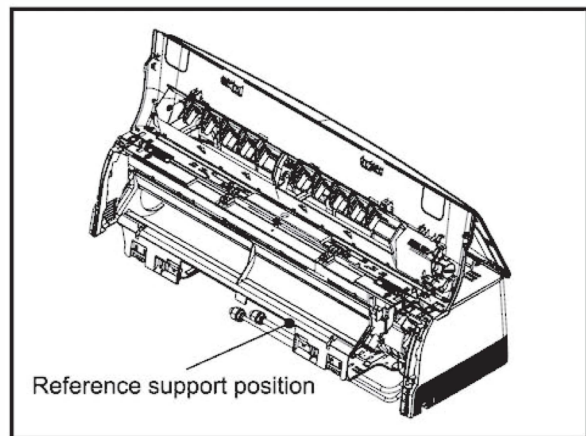
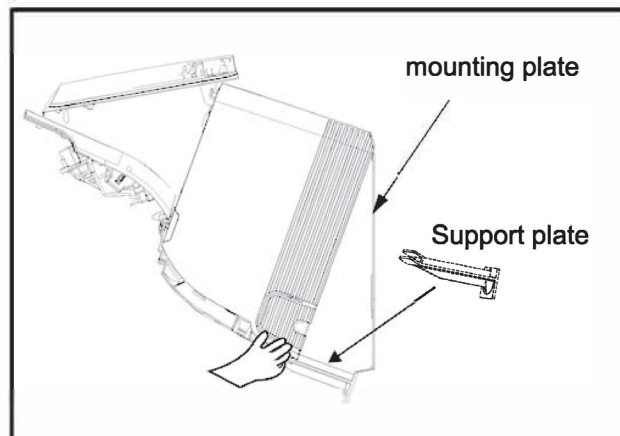

Fig. C.7.6
Fig. C.7.7
- 5) Use the support plate to move the unit step by step to reach the best location. (Fig. C.7.6 and Fig. C.7.7).